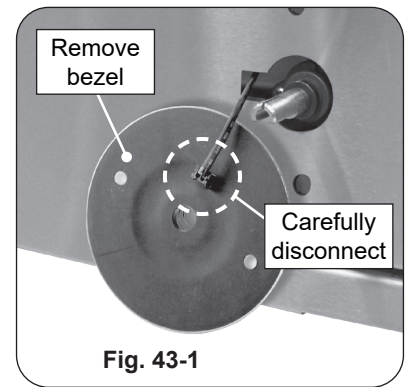

Fig. 43-1
4. Slowly lift away the lighted bezels to clear the valve stems, and carefully disconnect the wires found on the back of the bezels (use your fingernail). See Fig. 43-1.